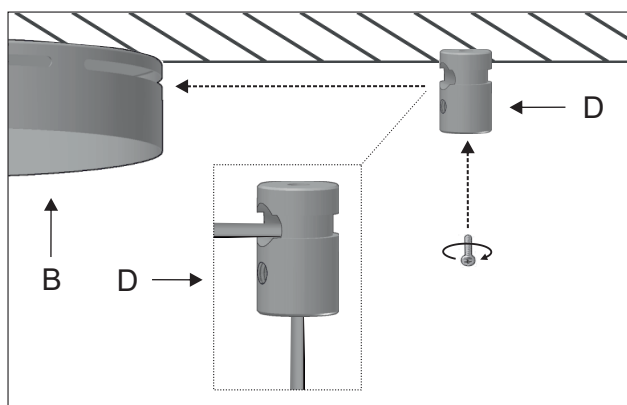

Figure 3
- 3 - Screw the cable holder (D) at the desired point in the ceiling. When creating a composition, we recommend to previously mark the heads's positions in order to get the desired figure.
Attention: Make sure that the cable outlet points towards the mounting bracket (B). Figure 3
- 3 - Atornillar el sujetacables (D) en el punto deseado del techo. En caso de crear una composición, aconsejamos marcarlos previamente para conseguir la figura deseada.